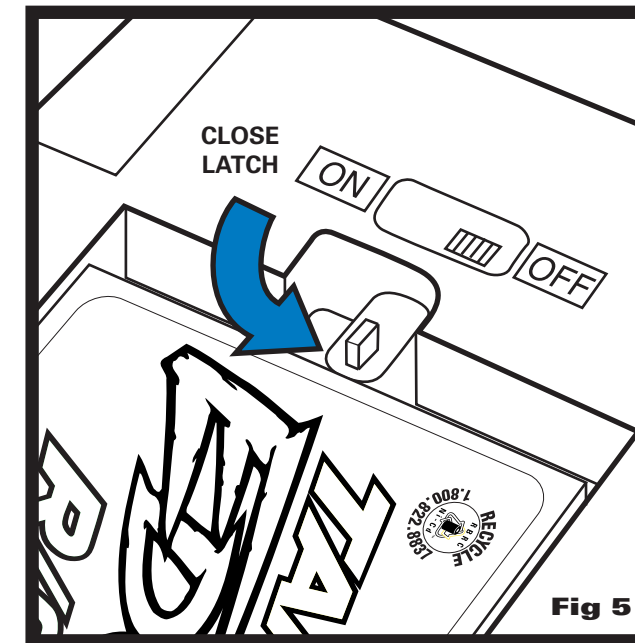

Fig 5
4. Turn LATCH all the way to CLOSED position to secure BATTERY PACK inside BATTERY OPENING. (Fig. 5)